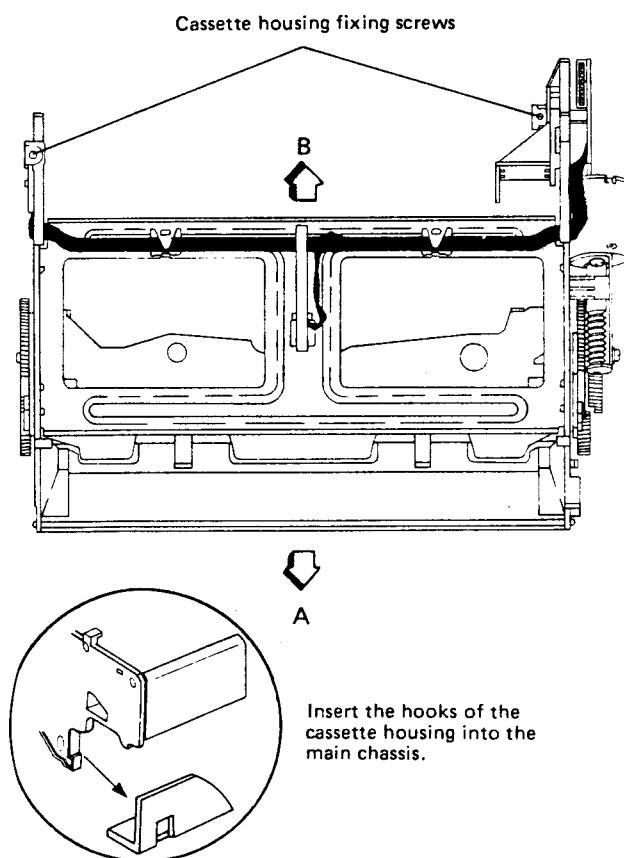

Figure 8.
4. Shift the cassette housing toward the arrow **B** direction shown in Fig. 8 and take it out upwards.